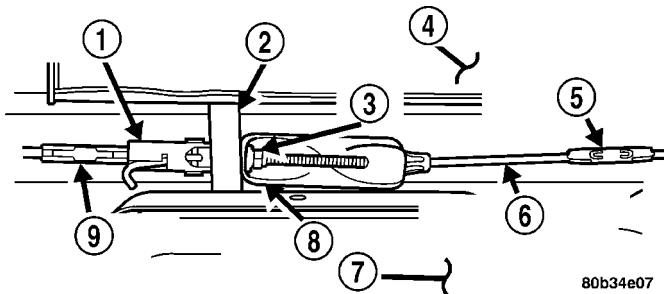
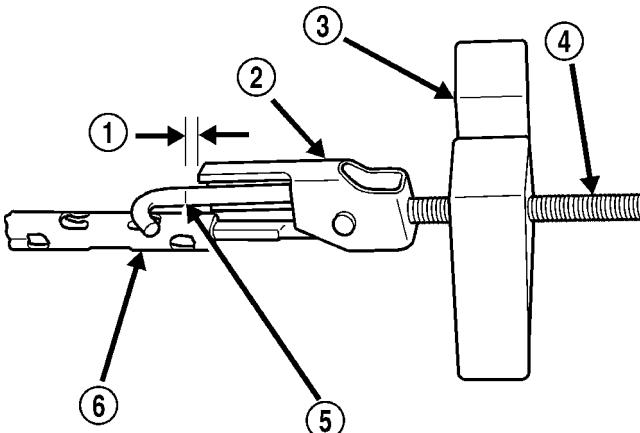

Fig. 97 Tensioner
Fig. 98 ADJUSTMENT MARK ON CABLE TENSION
(1) Raise vehicle on jackstands or centered on a frame contact type hoist. See Hoisting in Lubrication and Maintenance.
(2) Remove the park brake tensioner adjuster nut (Fig. 97), releasing the tensioner from the equalizer bracket to the intermediate cable.
(3) Disconnect the connector and remove the park brake tensioner from the left rear parking brake cable (Fig. 97).
- (1) Mark tensioner rod 6.35 mm (1/4 in.) from edge of tensioner bracket (Fig. 98).
- (2) Install the park brake tensioner, with its isolator, in the vehicle, with the threaded adjustment stud pointed towards the right side of the vehicle (Fig. 97).
(3) Connect the left rear park brake cable to the cable connector on the tensioner (Fig. 97).
(4) Attach the threaded end of the tensioner to the equalizer bracket (Fig. 97), and install a new adjuster nut. Do not tighten at this time.
(7) Raise vehicle again.
(8) Tighten adjusting nut at equalizer (Fig. 97) until mark on tensioner rod (Fig. 98) moves into alignment with edge of tensioner bracket.